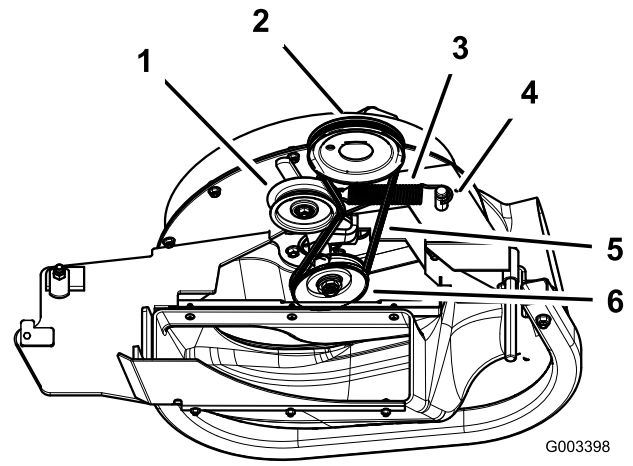

Figure 14
1. For 60- and 72-inch machine decks, install the belt around the blower pulley (Figure 14).